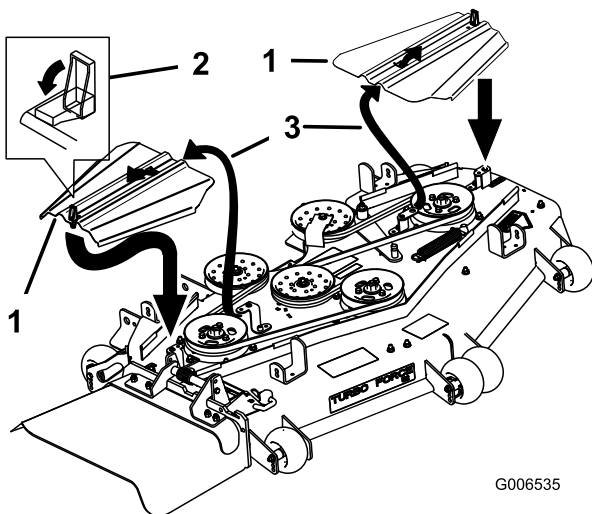

Figure 66
12. Install the belt covers by sliding the cover into the tab, install the bolts, and close the latches (Figure 66).